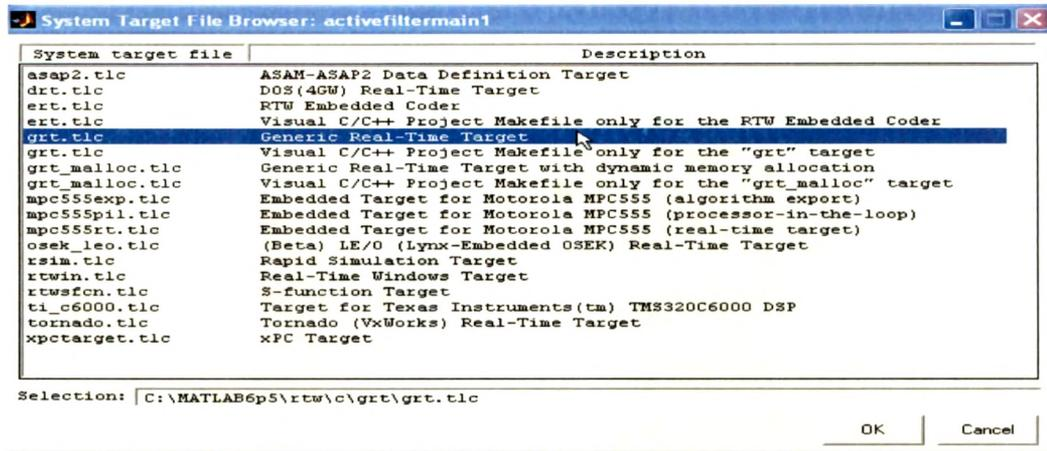

Fig 8.33 SYSTEM TARGET FILE BROWSER
- From the list of available configurations, select Generic Real-Time Target (fig. 8.33) and then click OK.